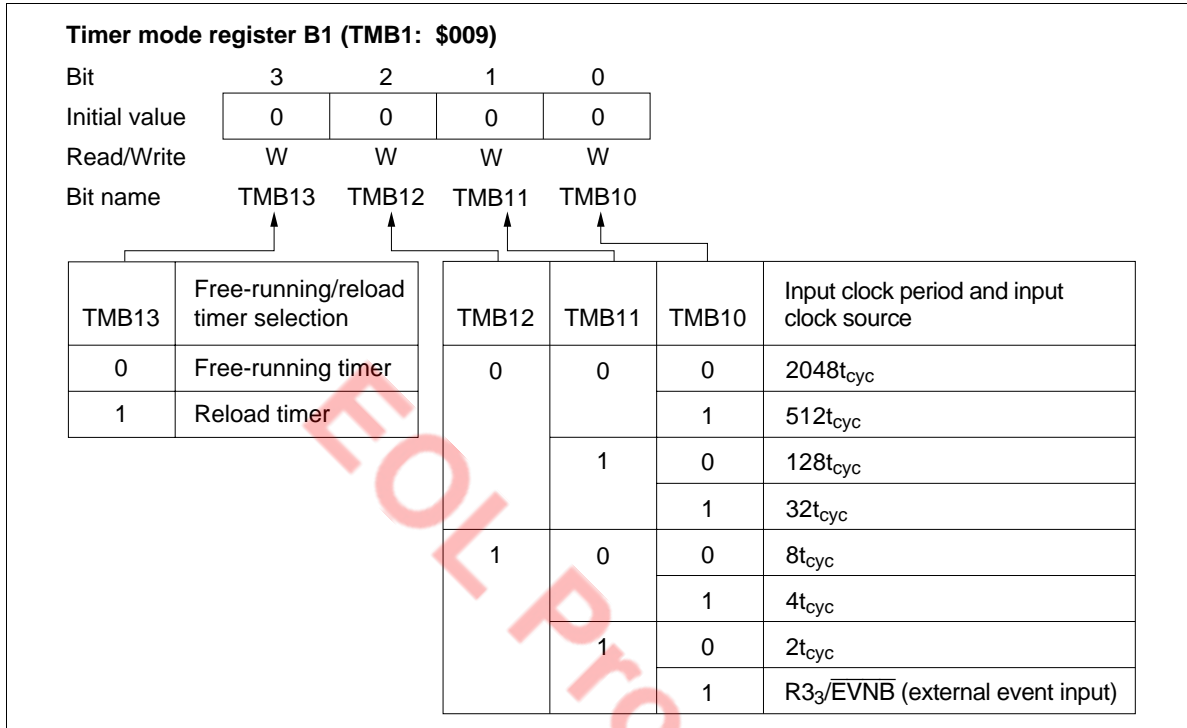

Figure 44 Timer Mode Register B1 (TMB1)
- Timer mode register B1 (TMB1: \$009): Four-bit write-only register that selects the free-running/reload timer function, input clock source, and the prescaler division ratio as shown in figure 44. It is reset to \$0 by MCU reset.